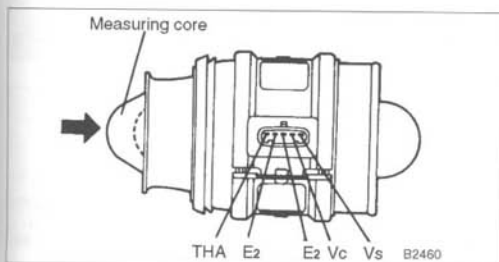

Fig. 3-5. Measuring-core air flow sensor. Measure resistance values at about room temperature, 70°F.
3. Measure resistance across terminals shown in Fig. 3-5. See Table f for test values.